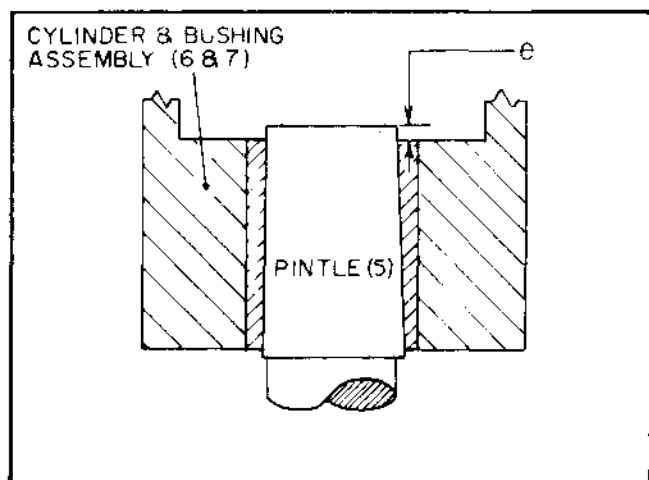
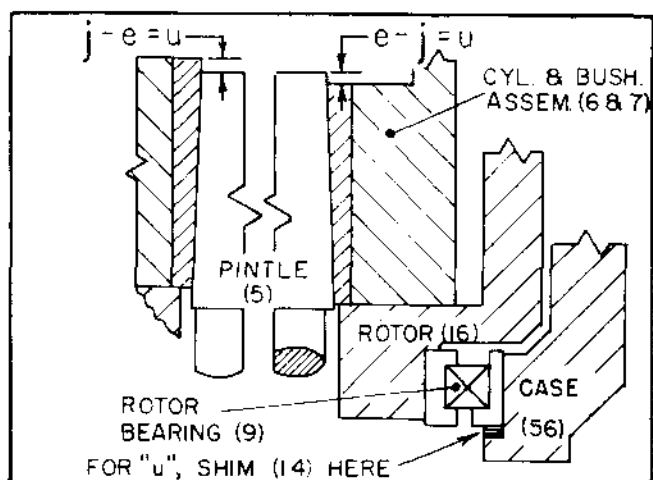

FIGURE 6 TIGHT POSITION
FIGURE 7 OFF-TIGHT POSITION
1. PINTLE If pintle (5) was removed, set case with open end facing up in a press (see V-A-g) for force needed). Apply a thin coat of anti seize lubricant on the large tapered surface of pintle and insert pintle into case locating it with key (77). Slip a sleeve over the small pintle end so it rests against shoulder, not pintle's small end*. Press on sleeve until pintle end is flush with back of case. Cylinder bushing (7) and pintle (5) have .005" taper on diameter per inch of length. Suspend cylinder — bushing assembly (6 & 7) in a crane with large end of bore downward. Clean pintle and bushing surfaces thoroughly. Slowly lower cylinder over pintle, do not scrape bushing against edges or pintle ports. Stop when cylinder begins to become tight on pintle. Do not let entire weight of cylinder rest on pintle or cylinder will become too tight and damage the bushing. At this point, pintle should project past the cylinder bushing face the amount shown in V-A-e (see figure 6). Record actual dimension and identify it as "c". Remove cylinder from pintle.
2. ROTOR If removed, press spacers (17 & 17A) and thrust rings (18) in evenly. If new rotor bearing (9) is used, install bearing on rotor hub, thrust side of outer race faces away from hub shoulder (on size 60s — install original shims (14) in case and press outer race of roller bearing, with thrust flange down, into case; install inner race on rotor hub). Lubricate rotor bearing with hydraulic fluid. Replace original rotor bearing shims (14) and place rotor assembly in case. Make sure bearing turns freely.
3. CYLINDER Lubricate mating surfaces on pintle (5) and cylinder bushing (7). Lower cylinder without pistons (8) on pintle, do not scratch bushing on pintle edges. With cylinder resting on rotor (16), be sure cylinder turns freely. Use dimension given in V-A-j. See figure 7. If dimension "e" recorded in IX-D-1 is greater than "j", subtract "j" from "e" (e minus j). The difference should equal pintle projection beyond the cylinder bushing face. — If "e" is less than "j", subtract "e" from "j" (j minus e). The difference should equal the cylinder bushing projection beyond pintle. — Add, or remove rotor bearing shims (14) to obtain correct off tight position of cylinder on pintle. If new rear driveshaft bearing (12) is used, install in pintle with thrust side of outer race facing away from open end of case. Lubricate bearing. Remove cylinder and rotor from case. Place pistons (8) in cylinder, place cylinder in rotor. Center cylinder over pintle bore in rotor and lower assembly carefully into the case over the pintle.